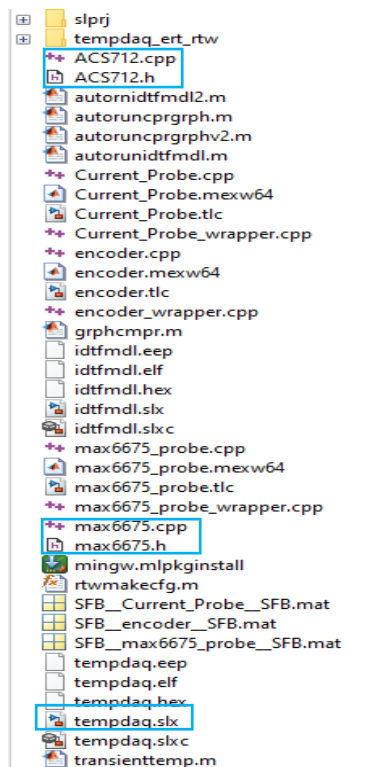

Figure 4.14: Max6675 library placement.
8. Max6675 was run in Arduino ide using library, so the same library should include into folder that used to create the model as Figure 4.14 where library is highlighted in blue box. Because s function will need the library as same as Arduino ide to run the code.